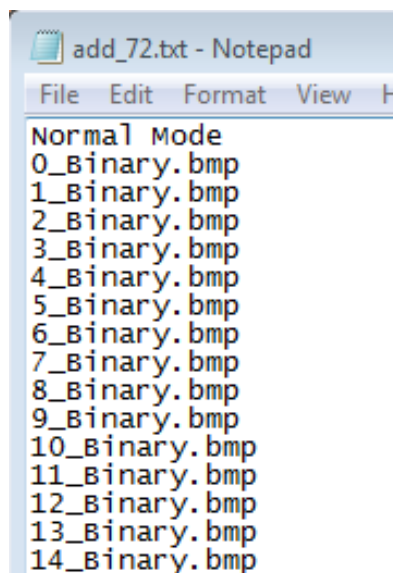
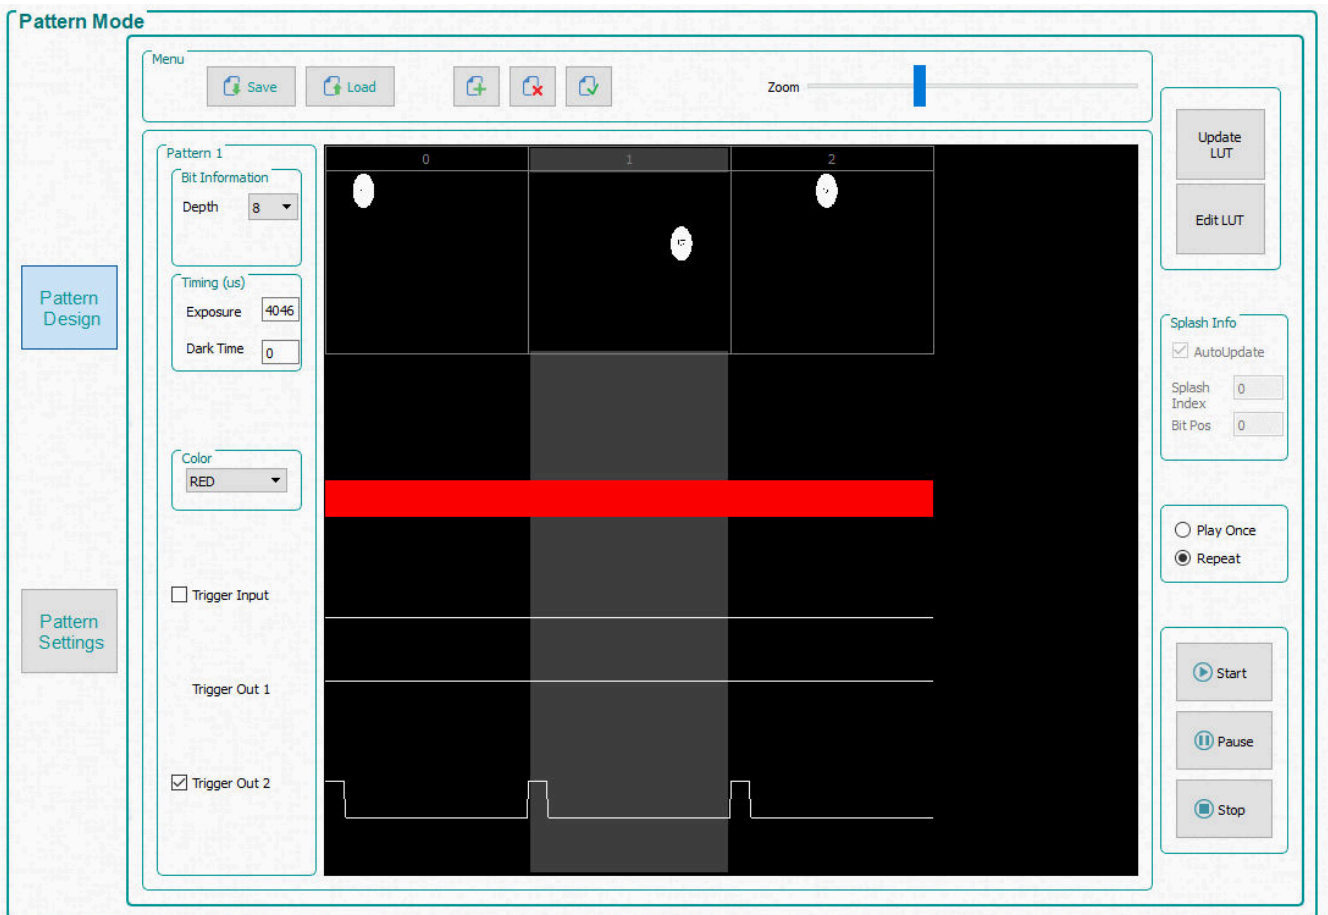

Figure 6-8. Add From List
Figure 6-9. Pattern Sequence
3. Click the *Add Pattern* button in the *Menu* bar and browse for any three bitmap images from the sample of images directory. Be sure to select them from the correct image folder for the EVM that is being used. All three images can be selected at the same time within the open file dialog window. When selecting multiple files at once, the operating system do not load the images in the same order as the images were selected. To add images in a predefined order, use the *Load* button. This option loads the images from a text file that contains the file names of each bitmap in the desired order. Alternatively, you can add the images one at a time using the *Add Pattern* button to verify order. Figure 6-8 shows an example of loading images from a file. The bitmap images must be located in the same directory as the text file. See Figure 6-9 after the images have been added.